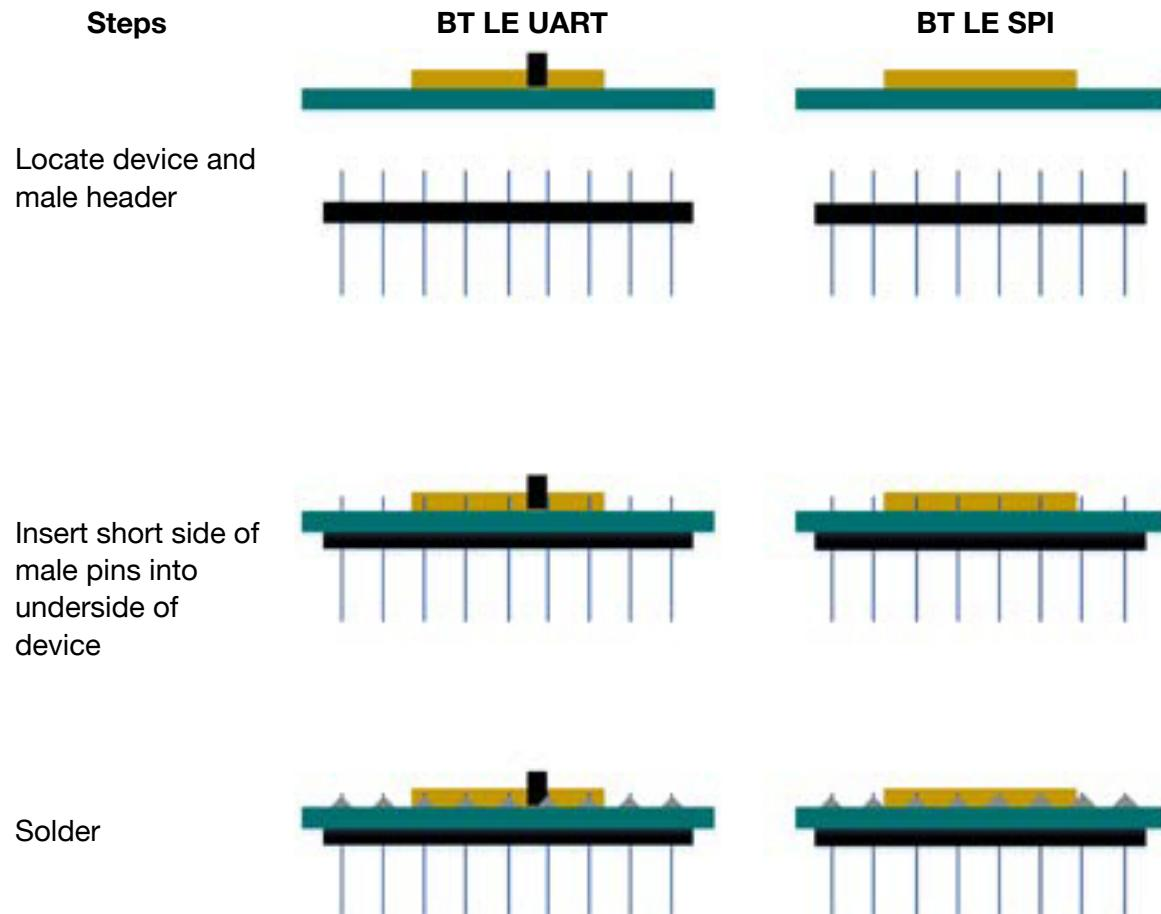

Figure HT10-2. Soldering male headers to BT device
2. Solder the male headers to the underside of the BT device as shown in Figure HT10-2. This is a three-step process: